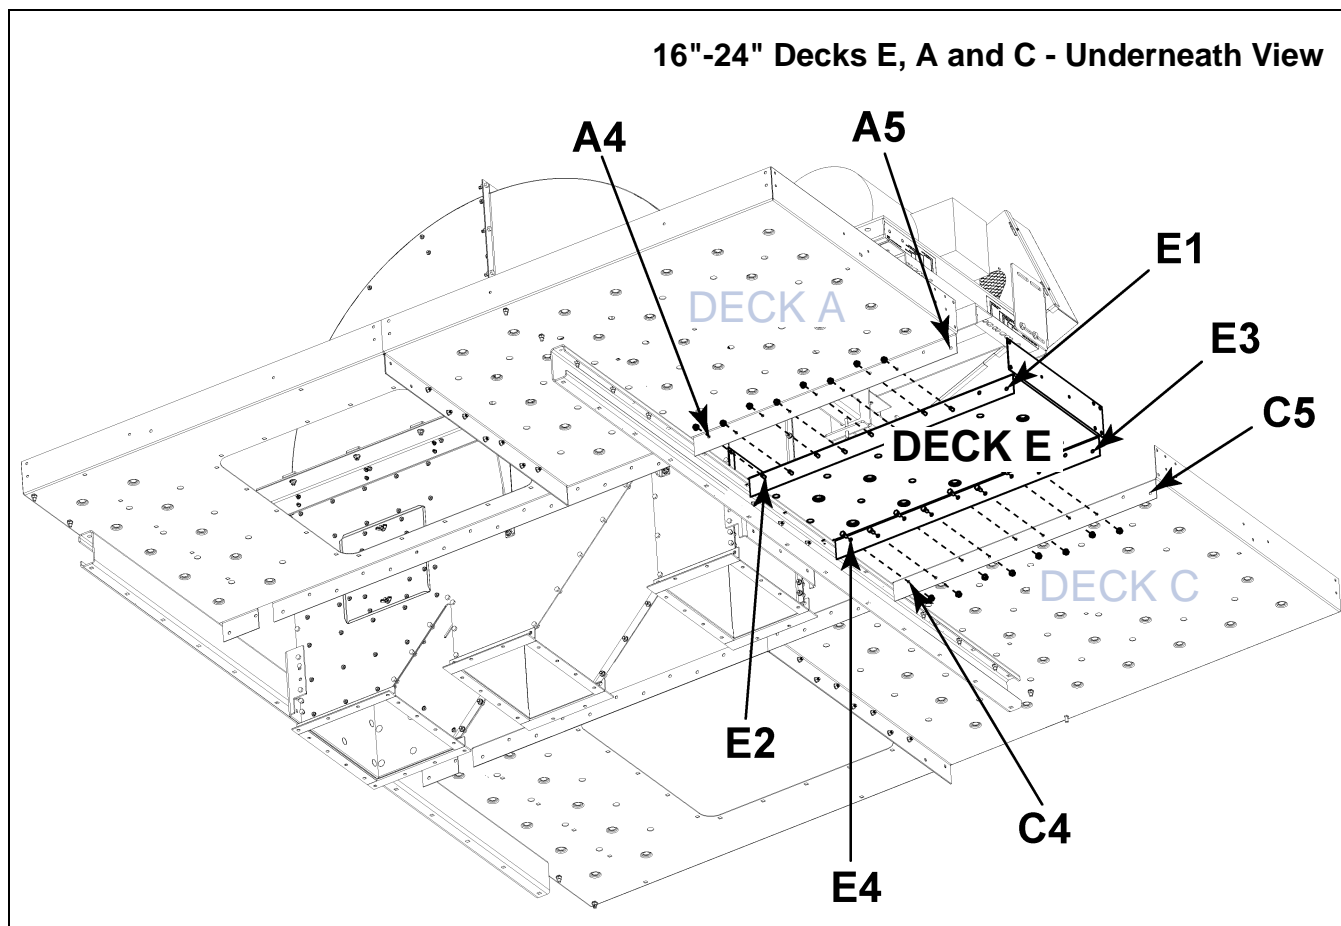

Figure 8H Deck E, Deck A and Deck C as Viewed from Underneath.
2. Using a punch as needed for alignment, connect Deck E to the side toe board using 3/8" x 1" carriage bolts (S-3585) with flange nuts (S-10028). Torque to standard specifications. (See Figure 8H.)